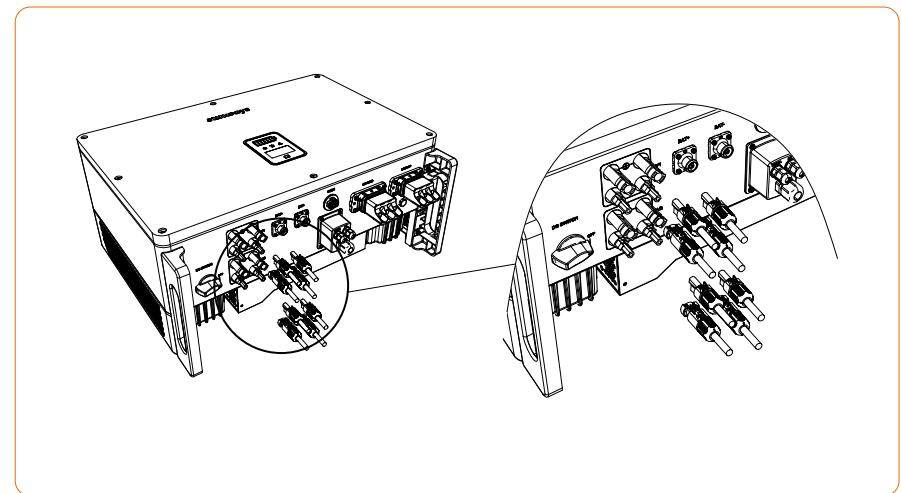

Figure 4-16
3. Insert the positive and negative connectors into the inverter DC input terminals respectively, a “click” sound should be heard if the terminals are well connected, as shown in Figure 4-16: